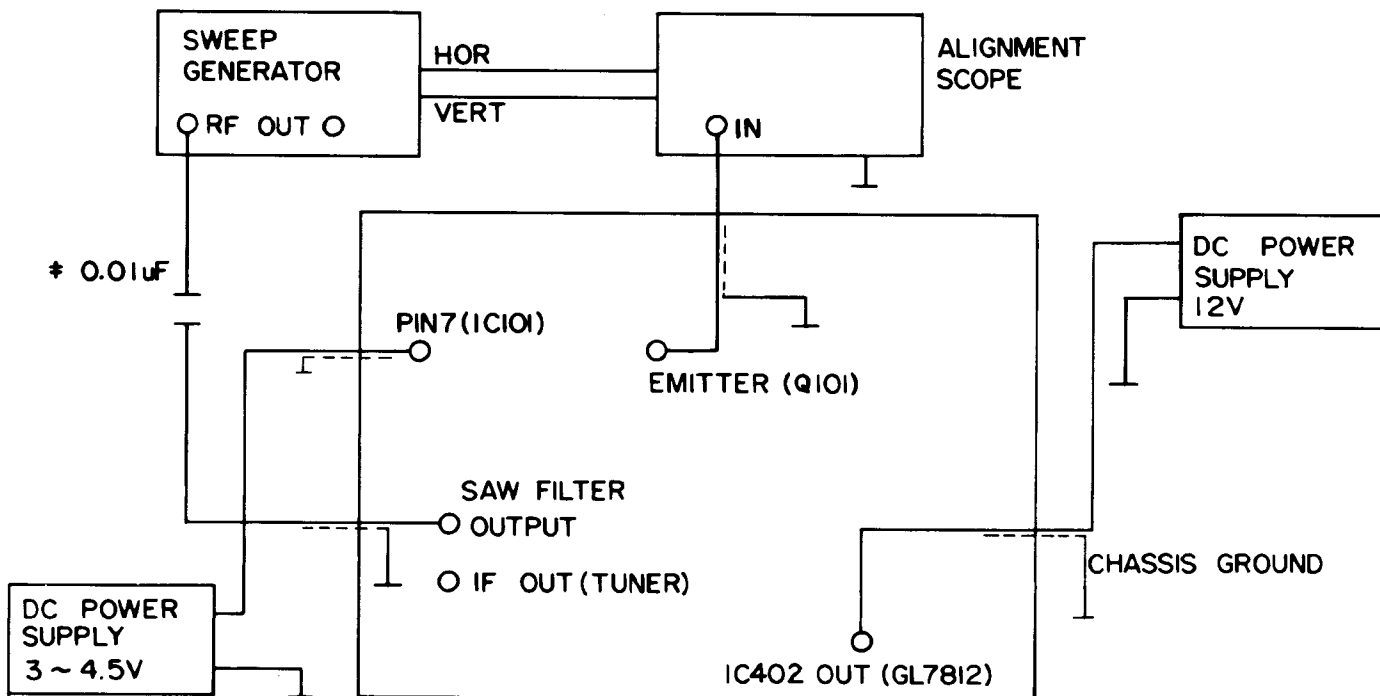

Figure 1
* Connect Ceramic Capacitor (0.01uF) between RF-OUT terminal of the Sweep Generator and Out terminal of Saw Filter as shown in figure 1.
- Connect the equipments to the main board as shown in figure 1, and then turn the DC power supplier on.
- 2) Do connecting Block Diagram of Equipments as shown in figure 1, but connect RF-OUT terminal of the sweep Generator to IF-OUTPUT terminal of the TUNER on the Main PCB.